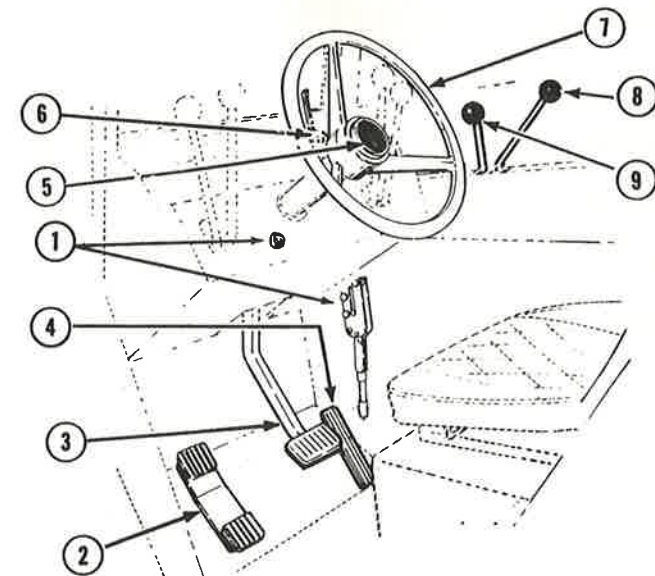

Figure 6. Machine Controls
6. **PANEL LIGHTS** - Illuminated by main light switch, item 8.
9. **KEY/START SWITCH** - Turn key clockwise to first position to energize the electrical system. The key included with the machine is necessary for operation of this switch. Turn key fully clockwise to engage the starting motor. Forward-Reverse Pedal (item 2, Figure 6) must be in neutral position before the engine will start.